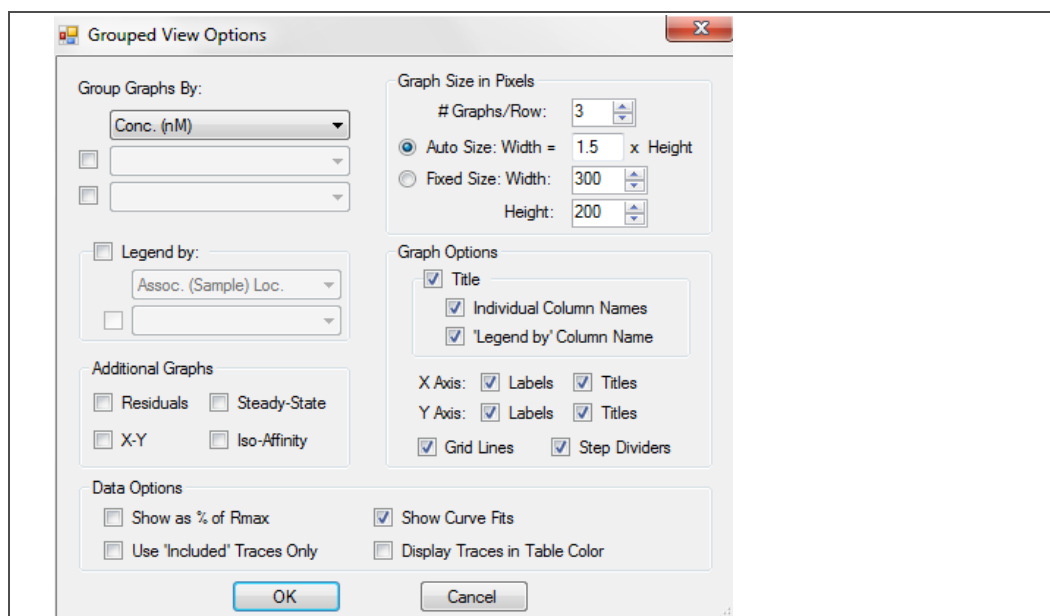

Figure 5-48: Grouped View Options Dialog Box
1. Select the **Grouped** option and click **Options** to display the Grouped View Options dialog box (Figure 5-48)
- **Set Color By Group**—Color-codes the results according to the groups set in the Grouped View Options dialog box (see Figure 5-48).